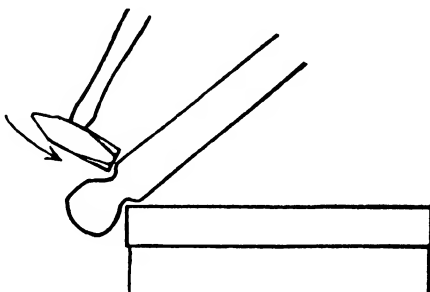

FIG. 31
6. Tilt slightly and with the hammer draw down the shank under the eye until the required length of taper is formed, being careful not to form a cold shut just under the eye. Fig. 31.